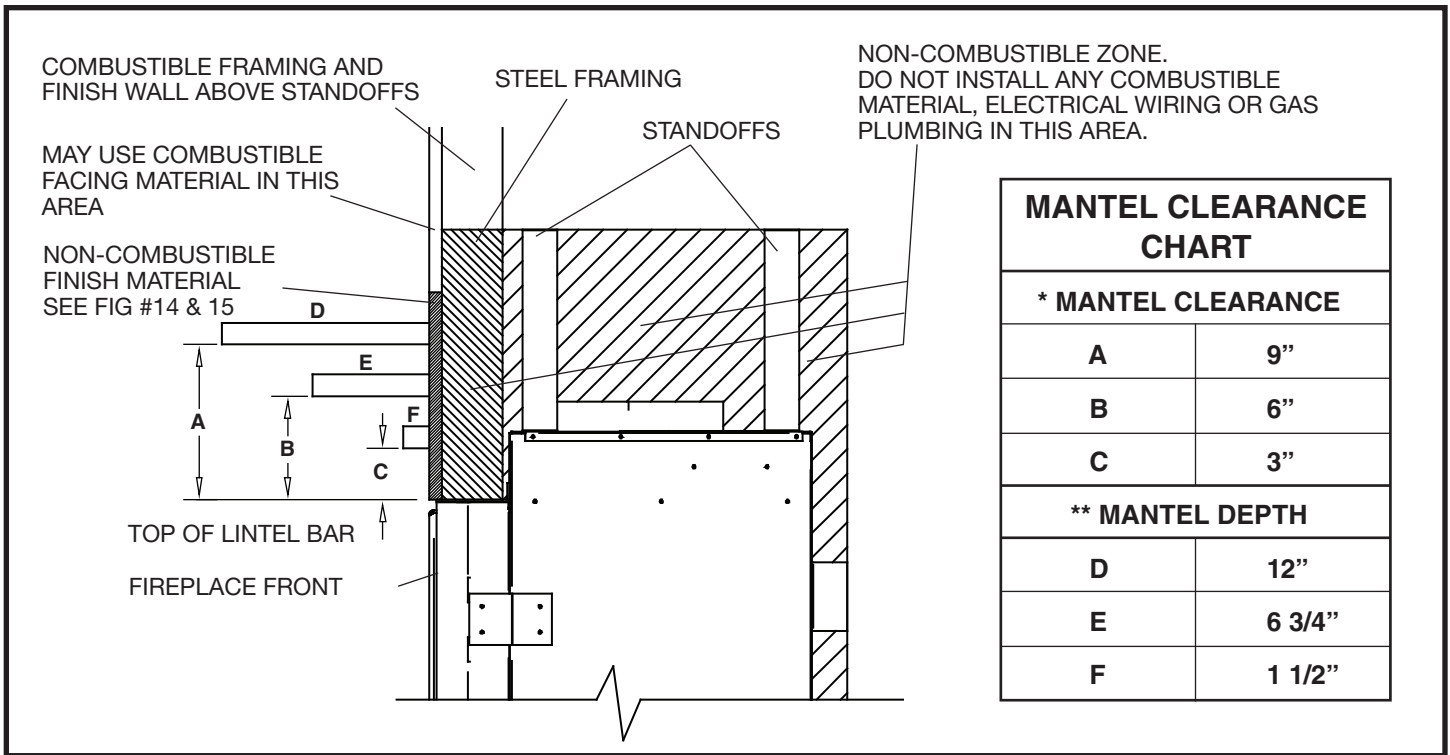
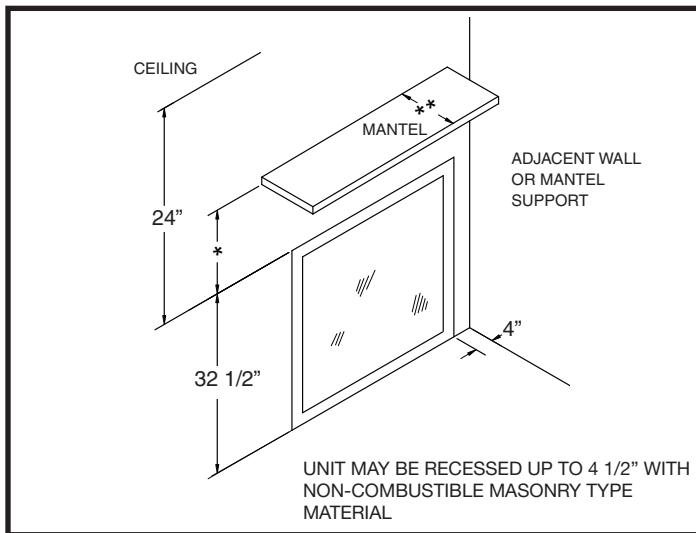

Figure 3: TC 36 Mantle clearances.
Figure 4: TC 36D Mantle.
*Mantel to appliance.....	(Figure 3)
**Maximum Mantel extension.....	(Figure 3)
The minimum clearances from the fireplace to combustible surfaces must be adhered to and are shown in Figure 3 & Figure 4.